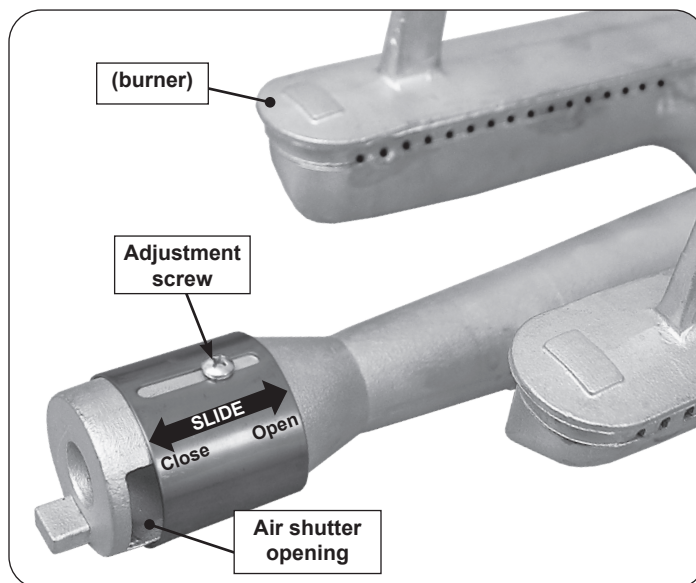

Fig. 52-2 Main burner air shutter adjustment detail
1. To adjust the air shutter, loosen the adjustment screw with a Phillips screwdriver. Then slide the shutter to open or close it. See Fig. 52-2 for details.